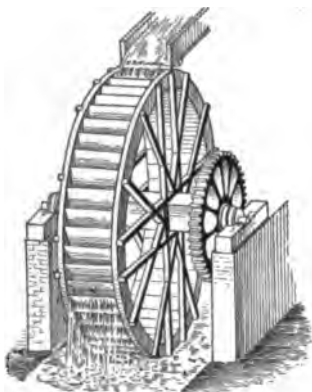

FIG. 112.—Overshot water wheel.
**The Overshot Wheel.**—The overshot wheel (Fig. 112) is turned by the weight of the water in the buckets. It was formerly much used in the hilly and mountainous